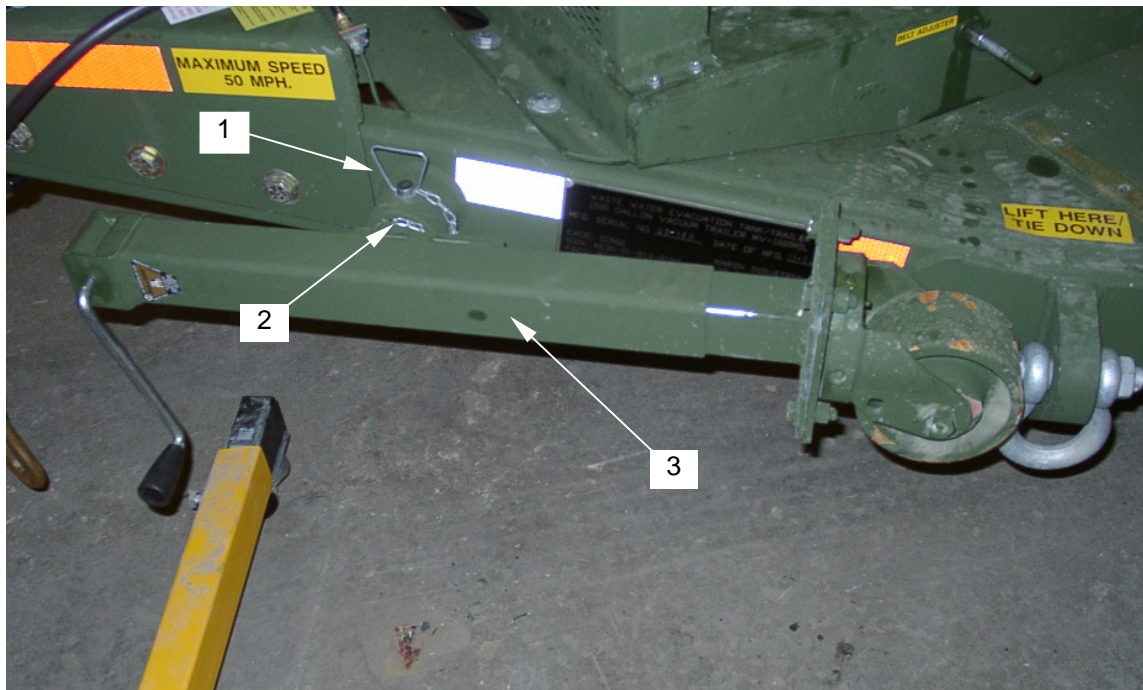

Figure 1. Trailer Jack
1. Disengage locking pin (**figure 1, item 1**) from turning fixture (**figure 1, item 2**).
2. Remove jack (**figure 1, item 3**).
3. Install new jack (**figure 1, item 3**) onto turning fixture (**figure 1, item 2**).
4. Lock jack (**figure 1, item 3**) in place with locking pin (**figure 1, item 1**).